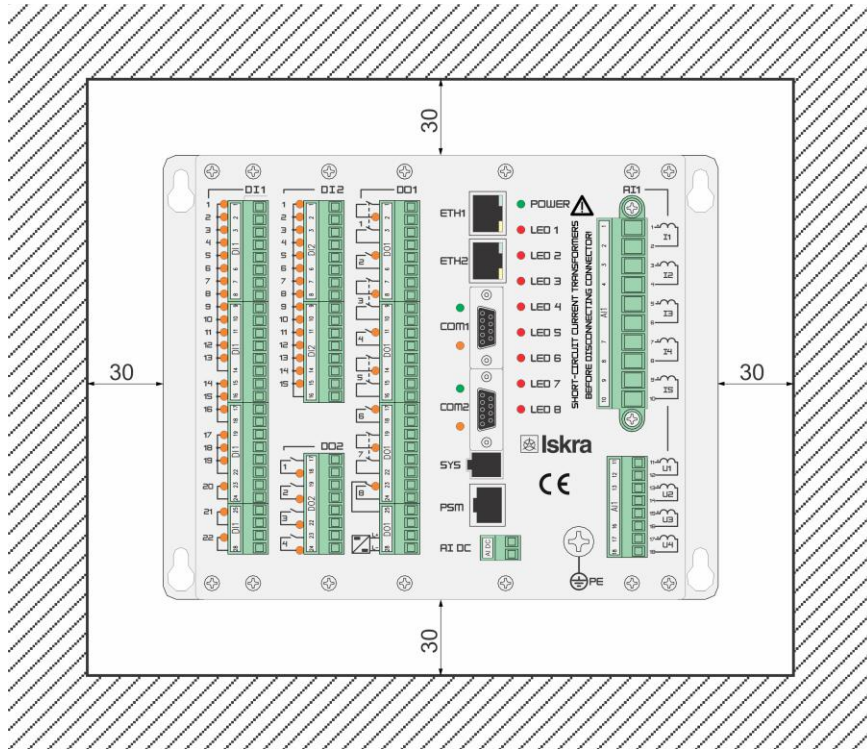

Figure 8.1: Free space around the device for its cooling
- Select location of the device, see chapter 8.3.5. Around the device there should be at least 30 mm of free space for conveying the heat, see Figure 8.1.